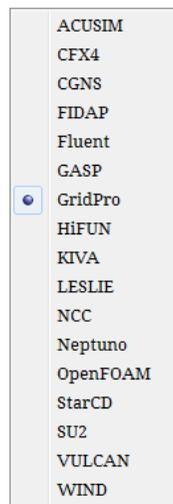

Figure 2.31: List of Solver formats
**Solver** menu in top menu bar is used for defining the solver format globally. All the surface properties and grid properties will be assigned according to the solver format selected. The various available solver formats can be seen in Figure 2.31.